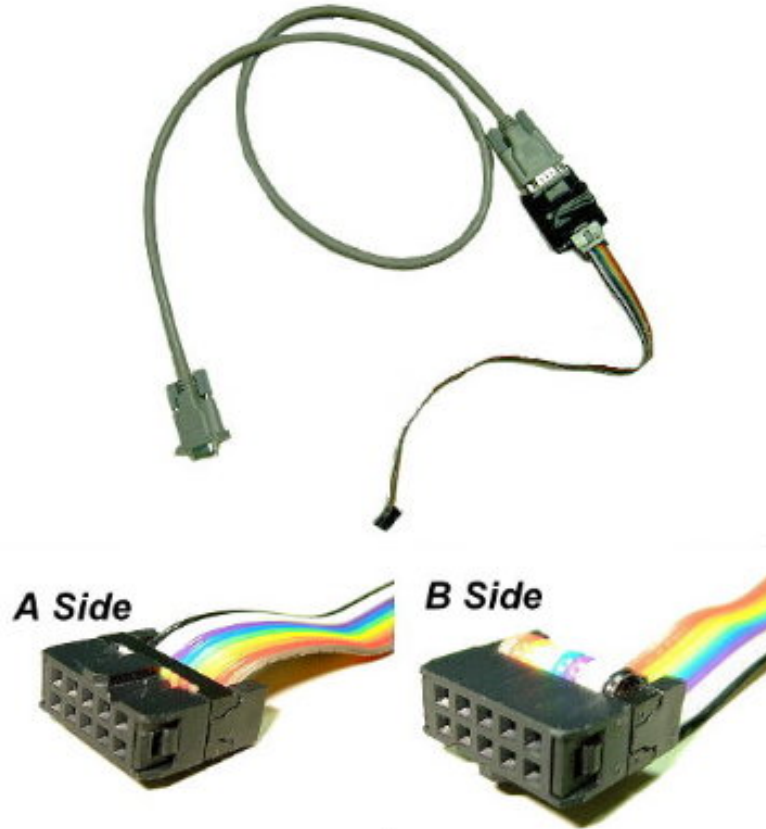
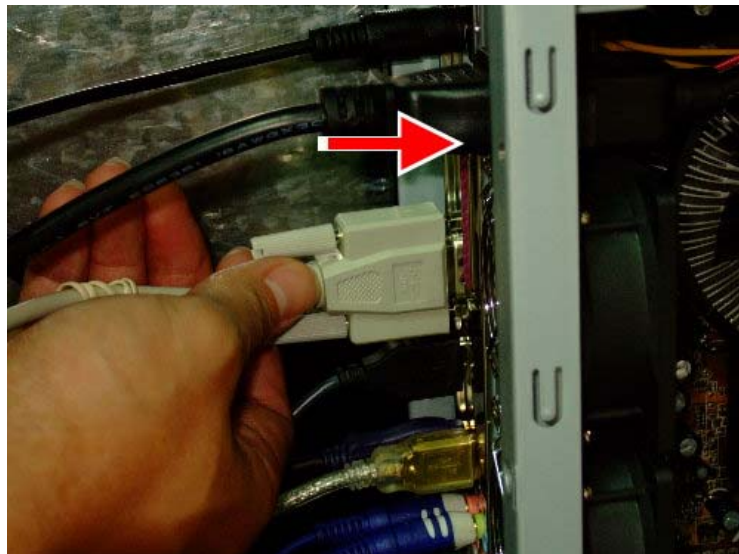
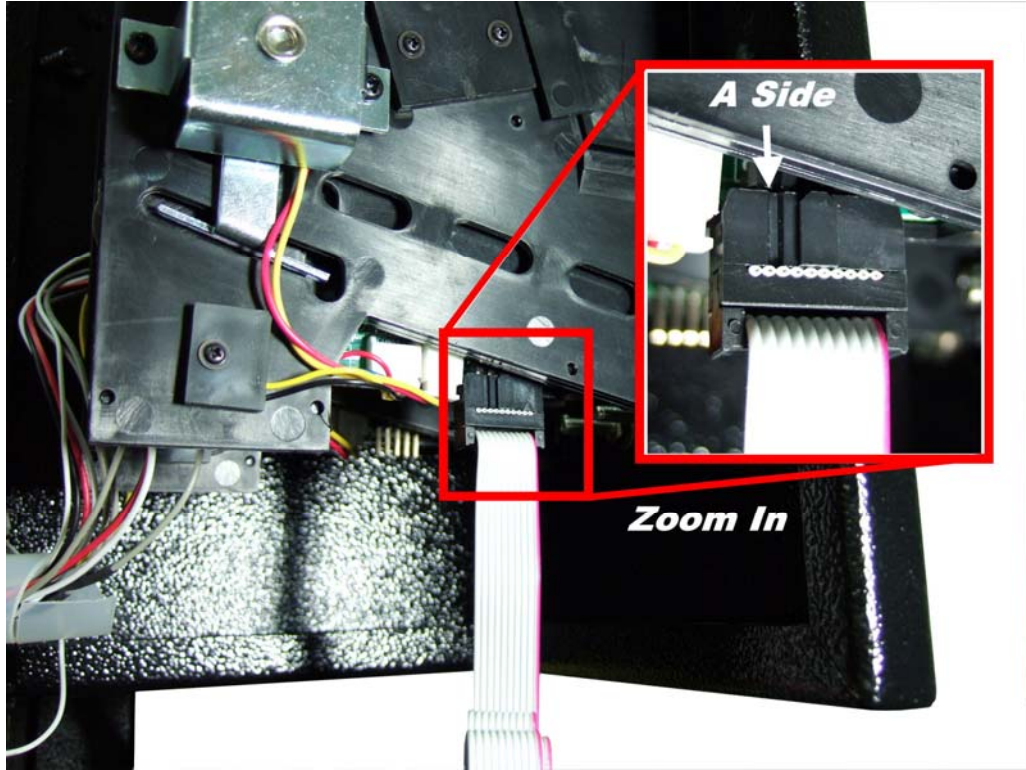

Fig. 4-4 Coin Training connector
Fig. 4-5 RS232 port
Fig. 4-6 Coin door
Step 1: Open the coin door (Fig. 4-6) and the control panel box. Then connect the Coin Acceptor and the IPC RS232 port (Fig. 4-5) by using a coin training connector (Fig. 4-4).